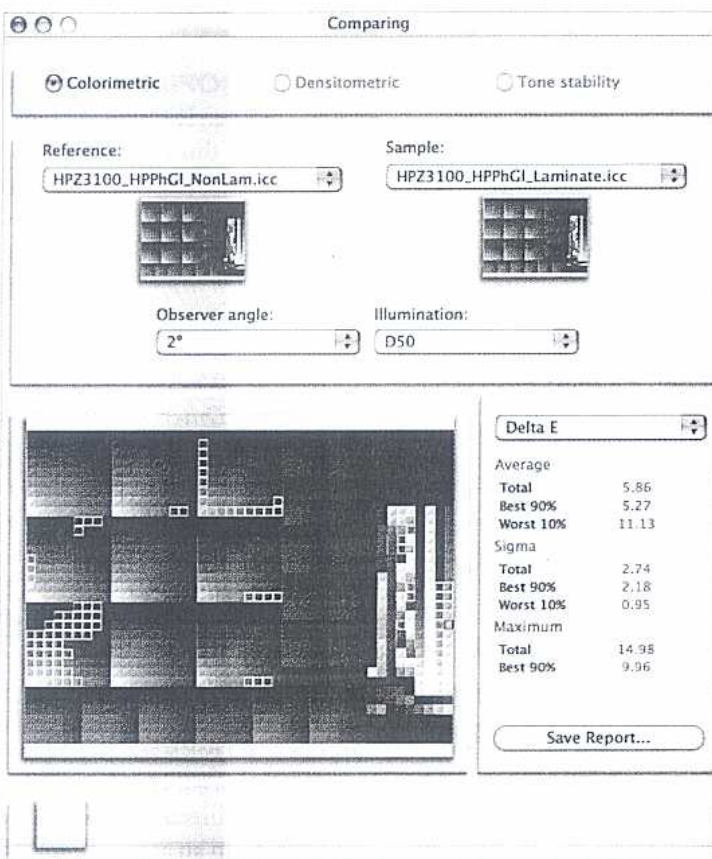

Figure 4
- 5) If the color management application permits, compare the color difference between the two targets (see **Figure 4**). This will indicate whether the laminate imparts a color cast.